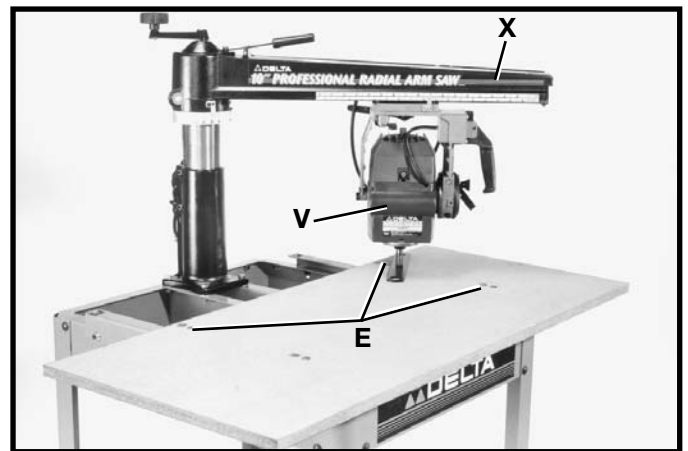
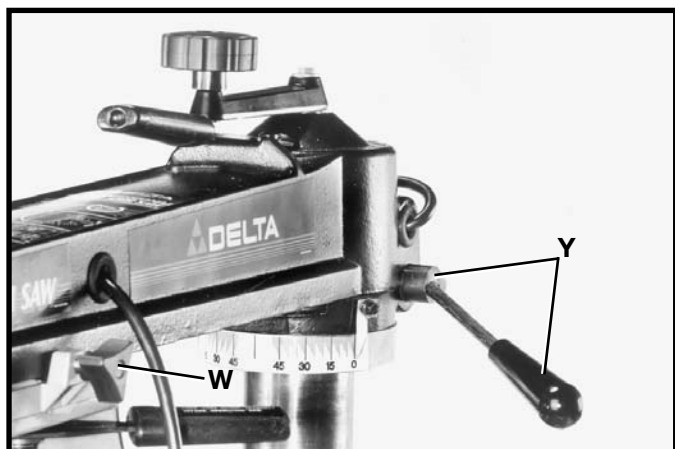
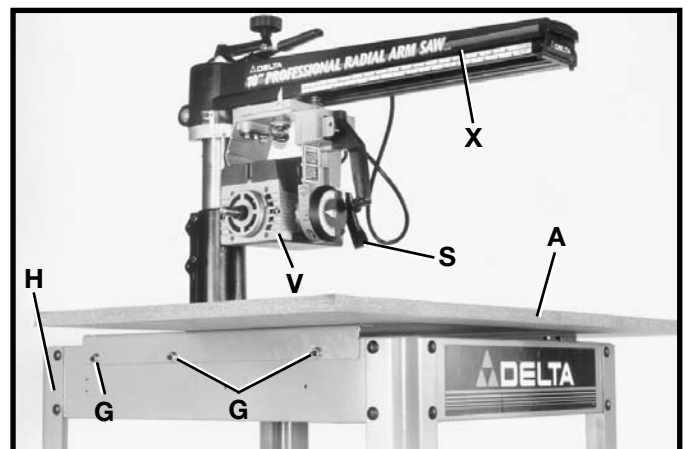

Fig. 26
Fig. 27
Fig. 28
12. Check the height of the table board above the other three table board adjustment screws (E) Fig. 26, by re-positioning track arm (X), and cutting-head assembly (V) until the highest point of the table is determined. **NOTE: MAKE CERTAIN CUTTING-HEAD CLAMP KNOB (W) FIG. 27 AND TRACK ARM CLAMP HANDLE (Y) ARE TIGHTENED WHEN MOTOR SHAFT IS LOCATED ABOVE EACH OF THE ADJUSTMENT SCREWS. DO NOT CHANGE HEIGHT OF TRACK ARM (X) FIG. 26, UNTIL HIGHEST SCREW IS DETERMINED, AND ALL FOUR CORNERS OF THE TABLE BOARD HAVE BEEN ADJUSTED.**
13. Position the motor shaft back over the three lower corners of the table board and adjust the table adjustment screws (E) Fig. 26, until the arbor wrench fits accordingly between the arbor shaft and table board in each location.
14. Once the table board (A) Fig. 28, is properly adjusted, tighten three nuts (G) on each side of saw base (H). Then return track arm (X) and motor (V) to the 90 degree position as shown, and tighten bevel clamp lever (S) and track arm clamp handle (Y) Fig. 27.